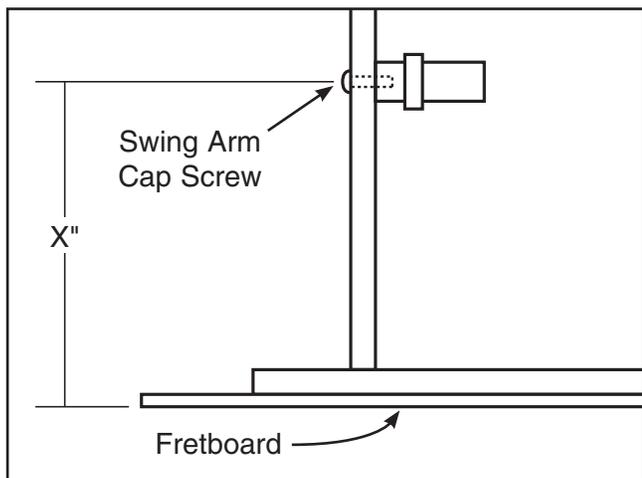

Figure 12. Swing arm shaft adjustment.
1. Loosen the button head cap screws that secure the swing arm shafts to the height adjustment arms as shown in **Figure 12**.
Example: To achieve a 16" radius on the fretboard, the distance shown as X" in **Figure 12** would be 16".